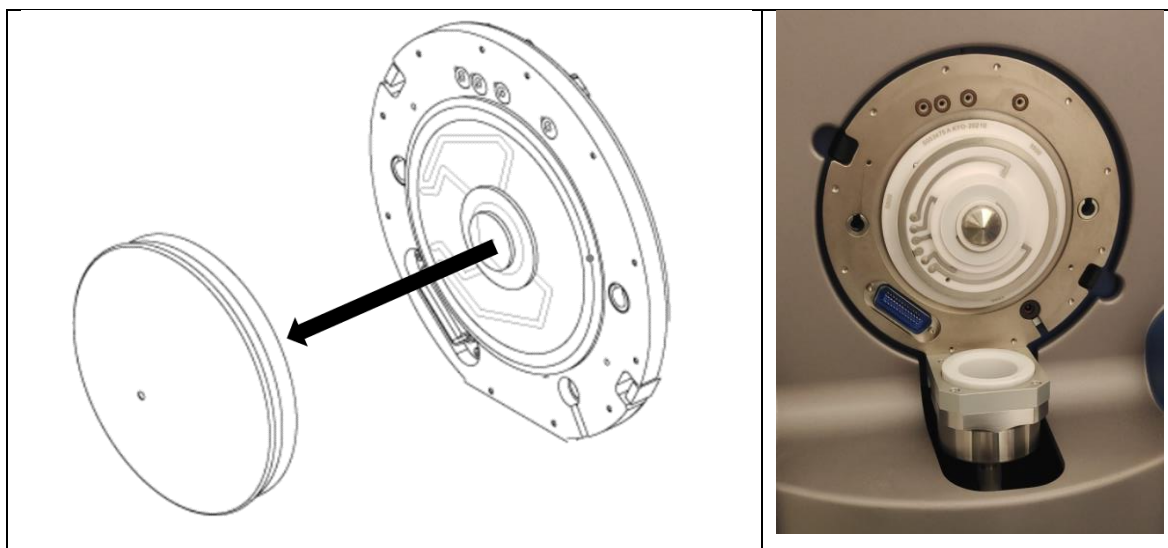

Figure 3: Removal of the curtain plate.
- Carefully remove the *Curtain Plate* (see Figure 3)